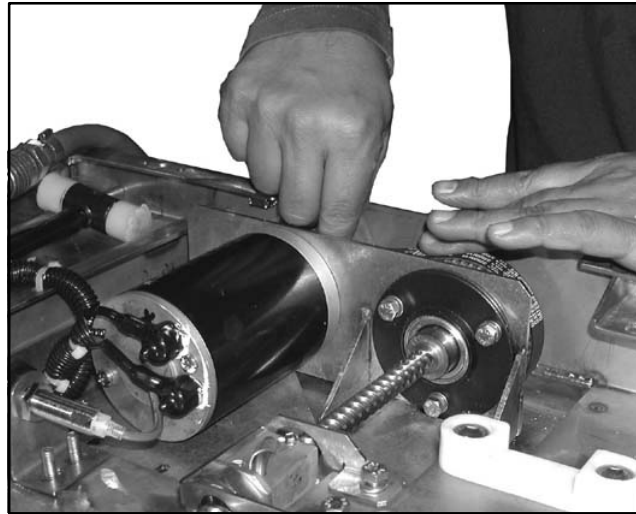

FIGURE 4-17: MOTOR DRIVE PULLEY
- f. Refer to **Figure 4-17**. Stow ramp manually by turning large pulley. This will re-align ball screw.
- j. Refer to **Figure 4-17**. Slip belt off large and small pulleys while turning both manually.
- k. Refer to **Figure 4-17**. Stow ramp manually by turning large pulley. This will re-align ball screw.
- g. Refer to **Figure 4-17**. Stow ramp manually by turning large pulley. This will re-align ball screw.
- k. Refer to **Figure 4-17**. Deploy ramp manually by turning large pulley to gain access to carriage assembly and alignment plate assembly.